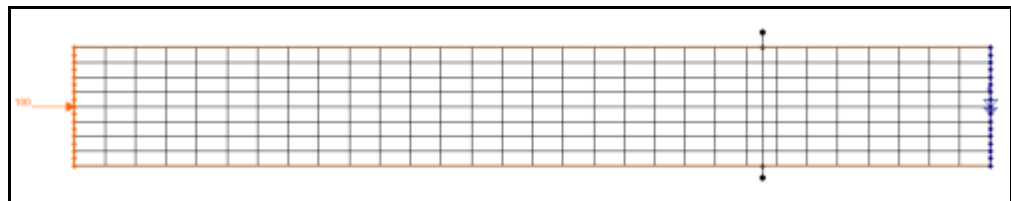

Figure 12 Channel #3 showing placement of observation arc.
11. Create an observation arc across the flume from top to bottom at about 200 m from the downstream boundary as shown in Figure 12.